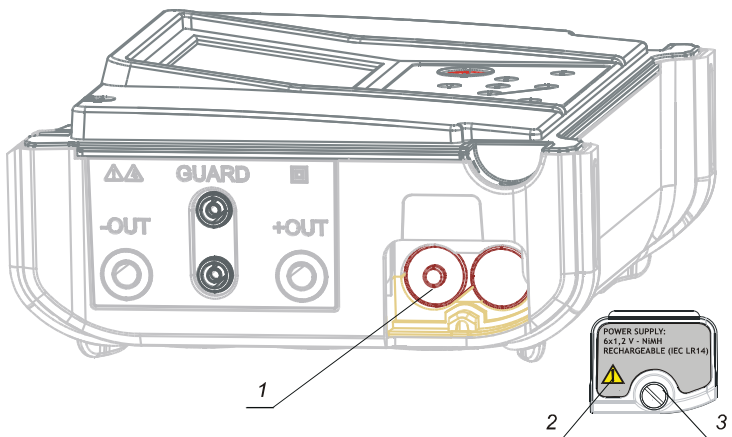

Fig. 15 Correct Inserted Batteries
Battery cells are stored in the bottom section of the instrument casing under the battery cover (see Fig. 15). When inserting batteries for the first time please note the following:
- Insert batteries correctly (see Fig. 15), otherwise the test instrument will not operate!
Battery cells are stored in the bottom section of the instrument under the battery cover (see Fig. 15). In case of defective batteries please note the following:
- Insert the batteries correctly (see Fig. 15), otherwise the test instrument will not operate and the batteries may be discharged.